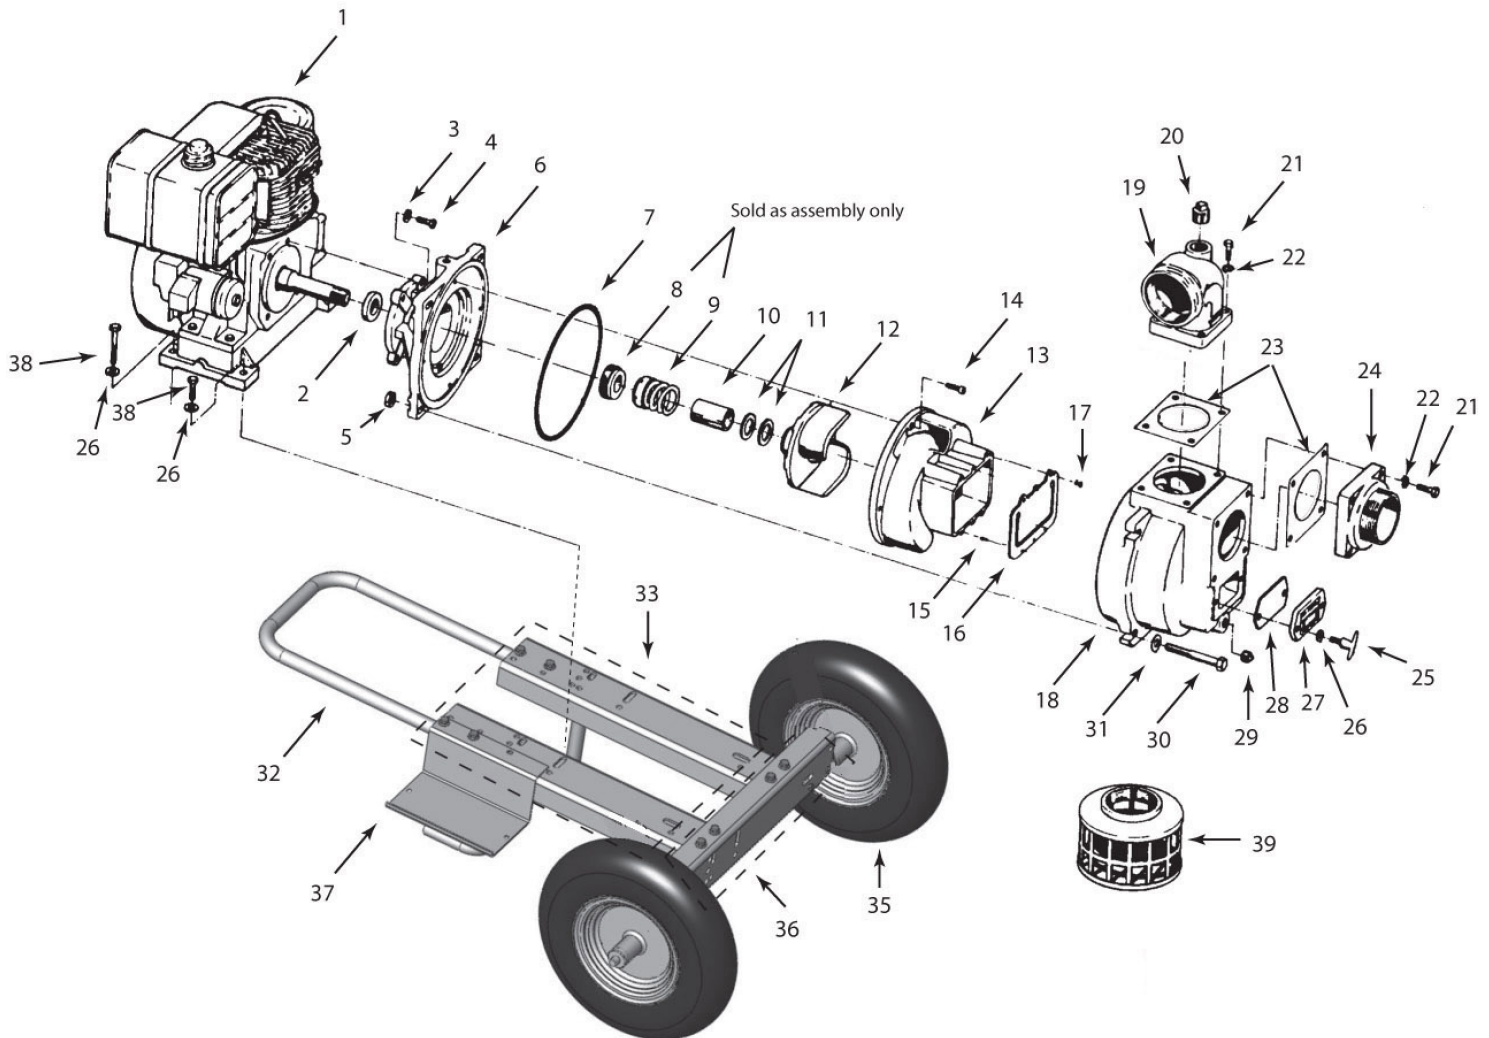

Figure 2 - Repair Parts Illustrations
(Refer to Figure 2)
2. Stand pump carefully on pump end. Reposition handle (Ref. No. 32) (as shown in Figure 2) facing outwards by removing and replacing existing handle fasteners.
NOTE: When the clearance between the impeller and the volute/wear plate exceeds 1/16" at the face of the impeller or 1/8" on the outside diameter of the impeller, it may be necessary to take corrective action. The increased clearance can cause lengthened priming times and reduced pumping capacity. If both the priming and capacity of your unit are satisfactory for your application, it is recommended that no corrective maintenance be performed regardless of what clearances on your unit may have developed, since the increased clearances in themselves are not generally harmful to your pump. Normally, new pump clearances can be restored by simply shimming behind the impeller. (Add shim washers, Ref. No. 11). If the impeller is badly worn it is recommended that the impeller be replaced. This is usually all that is required since only on unusually abrasive services does the cast iron wear plate show deterioration. Occasionally a stone or hard object might get caught in the impeller and cause damage to the volute/cut water. In these cases, follow the instructions below for replacement and refer to Figure 2.